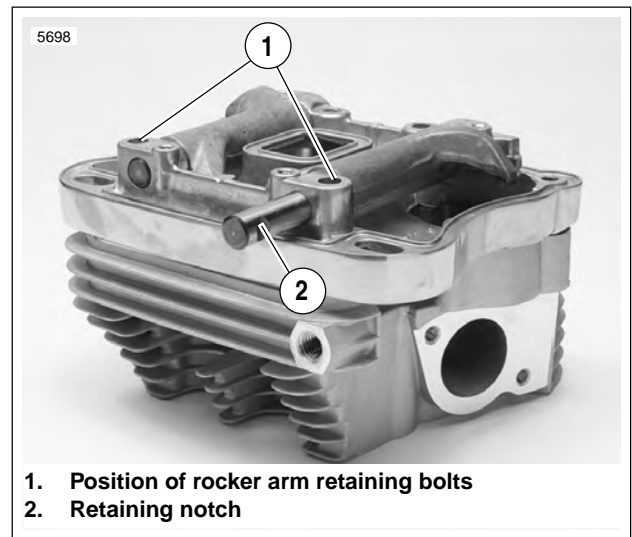

Figure 3-44. Removing Rocker Arm Shafts (Typical)
- See Figure 3-44. Remove rocker arm shafts by tapping them out using a hammer and a soft metal punch.